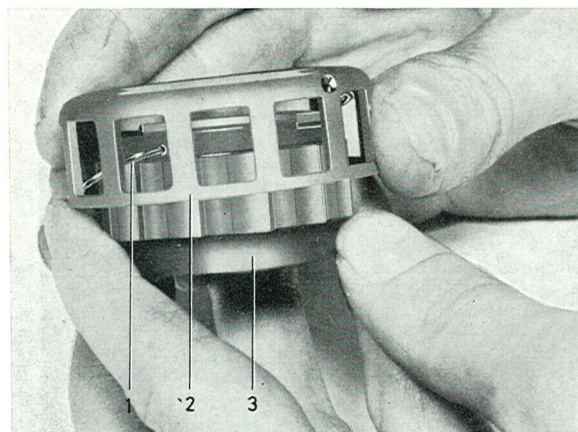
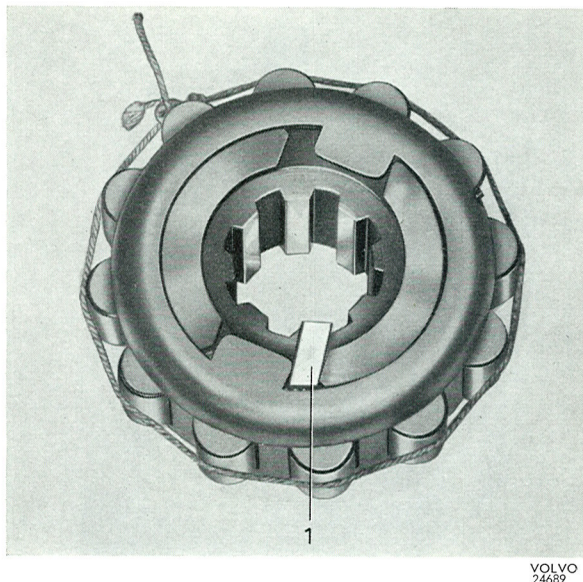

Fig. 4-62. Assembling the uni-directional clutch, I
Fig. 4-63. Assembling the uni-directional clutch, II
5. Assemble the uni-direction clutch, spring and roller cage, see Fig. 4-62. Turn the roller cage clockwise as far as it will go and lock it in this position with a key as shown in Fig. 4-63. Place in the rollers. Tie a piece of rubber band or string round the rollers.